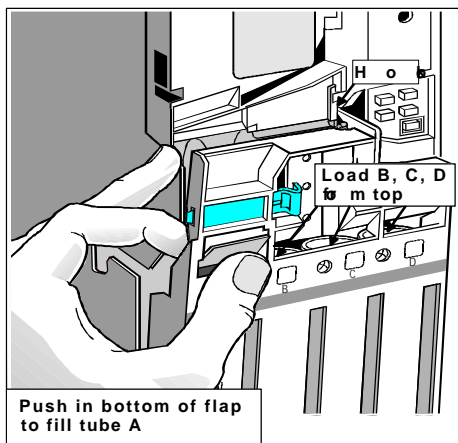

Figure 8
1. Squeeze the blue clips in front and pull the top of the cassette out until the hook on the cassette catches (see Figure 8).
3. For tube A, push the bottom of the fill flap in and load the coins into the tube from the top of the fill flap (see figure 8).